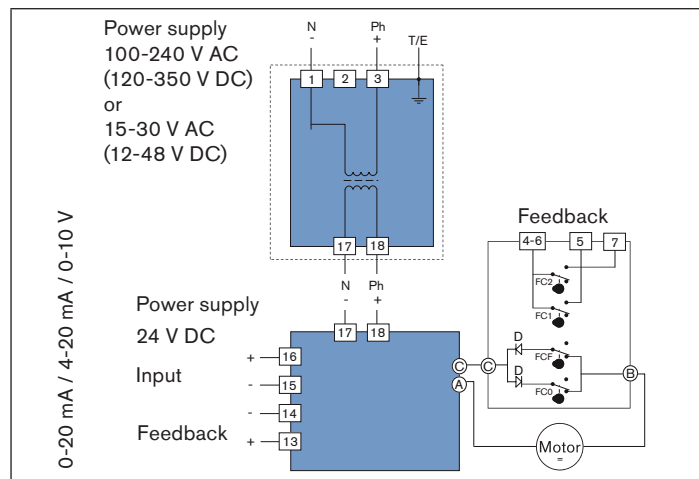

Fig. 17: Circuit diagram
- Connect cable according to the circuit diagram to the terminal strip (pos. 14, "Fig. 1" and "Fig. 2") of the power supply card ("Fig. 17").
- Connect cable to the terminal strip (pos. 12, "Fig. 1" and "Fig. 2") according to the schematic ("Fig. 17").